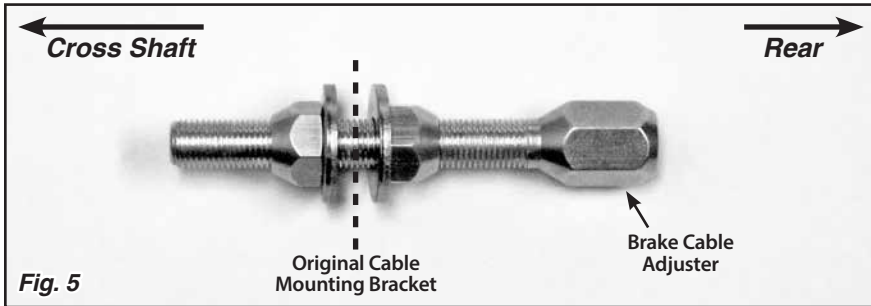

Fig. 5
**Step 3:** Install the brake cable adjusters into the original cable mounting brackets at the emergency brake cross shaft, using the adjuster nuts and flat washers. Position the brake cable adjusters so that they are roughly centered in the original brackets. **Fig. 5**